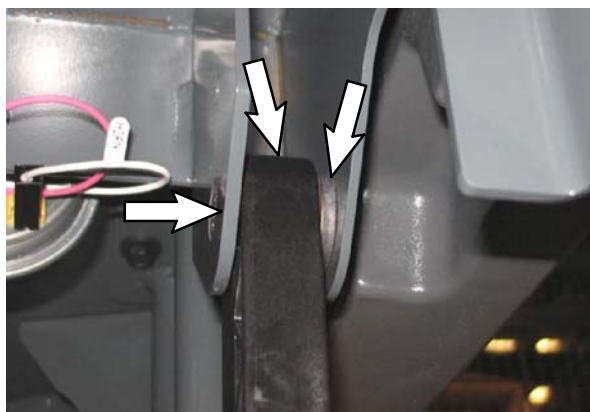
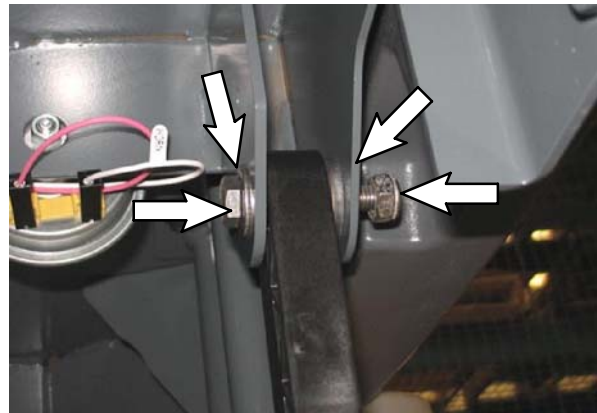

FIG. 9
FIG. 10
- Insert the sleeve (2) into the lift arm bracket on the frame of the machine, through the scrub head lift arm, through the spacer (1), and through the the other side of the lift arm bracket. Refer to Fig. 9.
- Use an M10 hex screw (3), two flat washers (4), and an M10 hex nut (5) to secure the sleeve (2), the scrub head lift arm, and spacer (1) into the lift arm bracket on the frame of the machine. Refer to Fig. 10.
- Repeat the last several steps to reinstall the other scrub head lift arm onto the other side of the machine. Refer to Fig. 9 and Fig. 10.